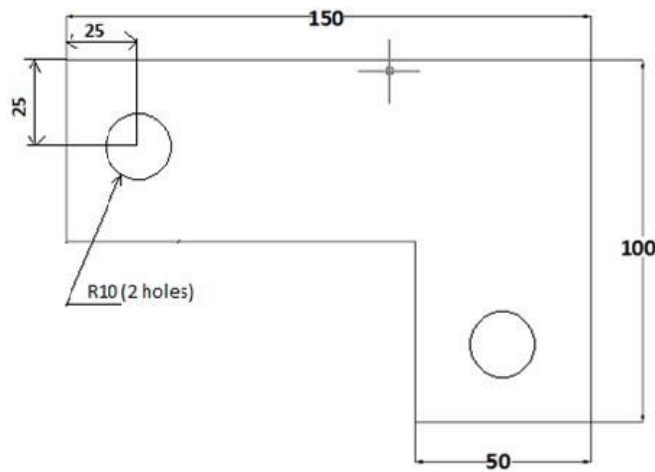

Figure 2
2. Analyze the given L-Bracket for stress as shown in Figure 2 and obtain plot for stress distribution and deformed shape by applying suitable boundary condition. $E=2 \times 10^5 \text{ N/mm}^2$, Poisson's ratio =0.3 Yield stress including safety factor 400 MPa. Options: Plane Stress; Real Constant: No need to define; Material Properties: Linear, Isotropic.